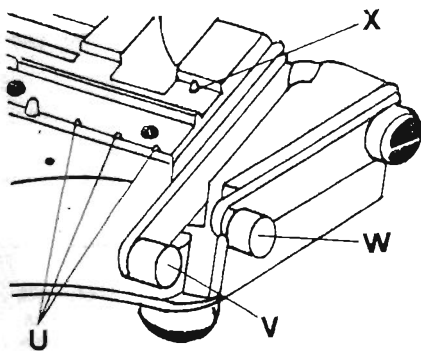

fig. 2
Fix the film to registration pins (U, fig. 2) and use straight cut (V) for the picture.